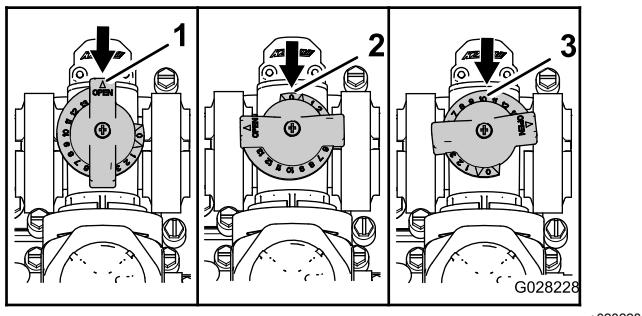

Figure 85
- The agitation bypass valve is in the full Open position as shown in A of Figure 85.
- The agitation bypass valve is in the Close (0) position as shown in B of Figure 85.
- The agitation bypass valve is in an intermediate (adjusted relative to the pressure gauge for the sprayer system) position as shown in C of Figure 85.